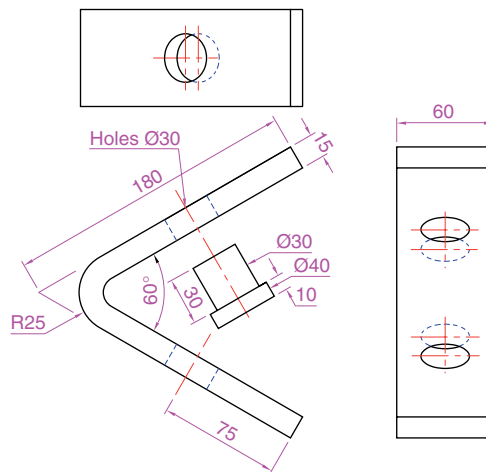

Fig. 17.29 Exercise I – details of the shapes and sizes
1. The two-view projection in Fig. 17.29 shows an angle bracket in which two pins are placed in holes in each of the arms of the bracket.